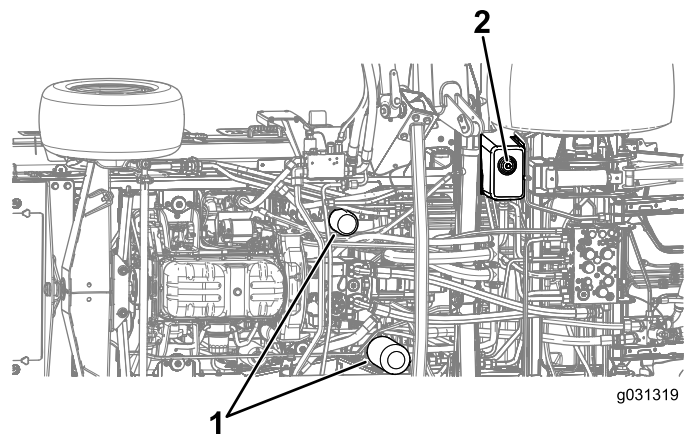

Figure 134
4. Remove the drain plug from the bottom of the tank and let the hydraulic fluid flow into the pan (Figure 134).
3. Place a drain pan under the filter and remove the filter (Figure 134).